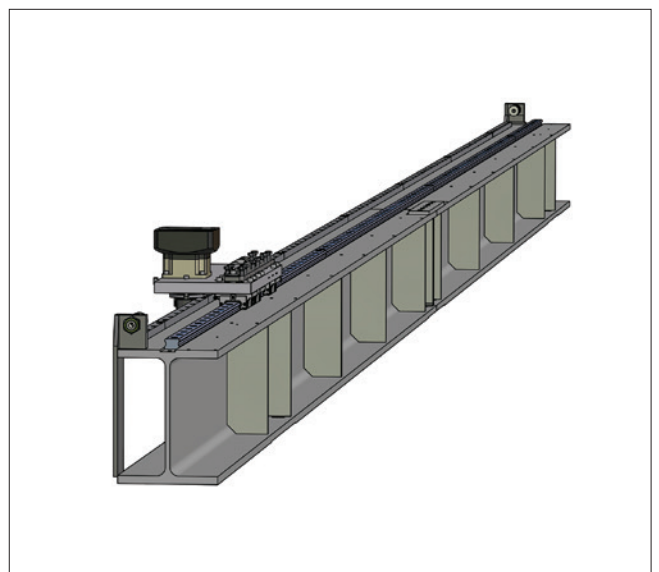

Figure 5.20 \_\_ AXS Beam Axis with rack and pinion drive for parallel use
- Beam Axis for parallel use (Figure 5.20)